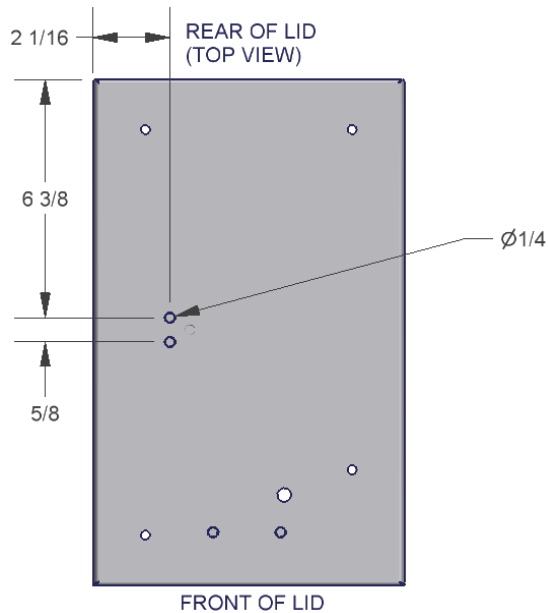

FIGURE 2
3. Mark the hole on the right side panel for drilling a 3/8" hole as illustrated and drill it out. (See Figure 2)